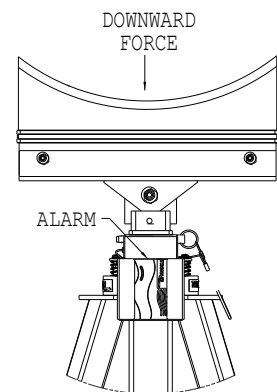

FIGURE 4 (for reference)
2. Test alarm by slowly applying a force evenly distributed across the top of the cradle. The cradle head will lower and engage a limit switch. A loud pulsating alarm will then sound when the force reaches between 100 to 150 pounds (45.36 to 68.04 kg). If alarm does not sound, refer to the Troubleshooting section. **Reference Figure 4.**